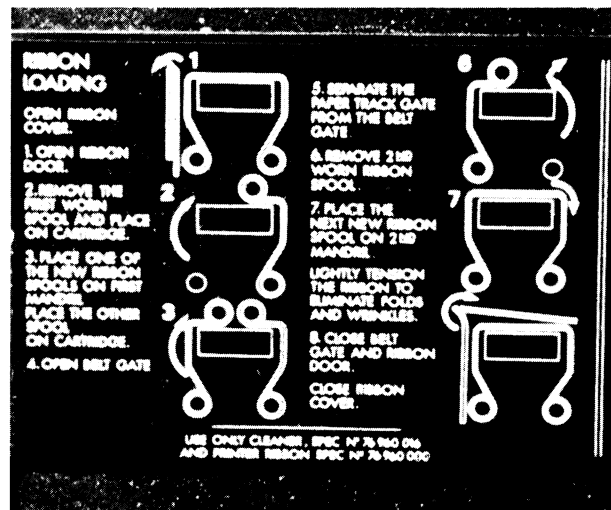

Figure 3-14. Ribbon Loading Diagram (Pre-Serial Number 2180)
1. Refer to ribbon-loading diagrams on the right-hand front door. (See Figure 3-14 and 3-15.)